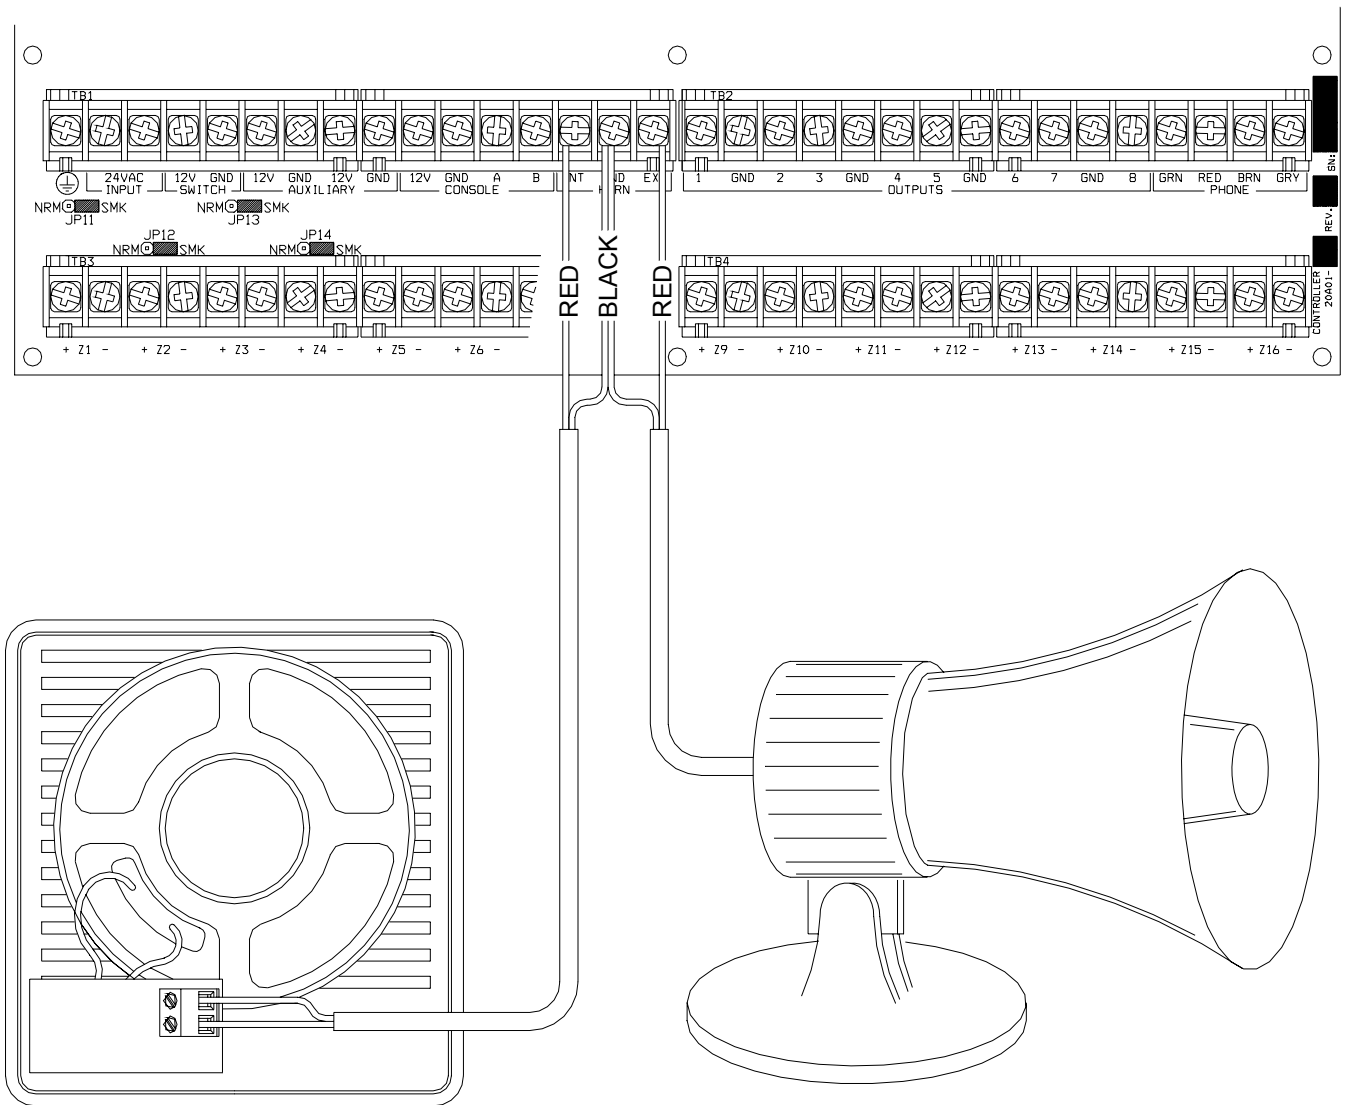

FIGURE 8 - SOUNDER CONNECTIONS
4. Refer to **FIGURE 8 (SOUNDER CONNECTION)** for connections.